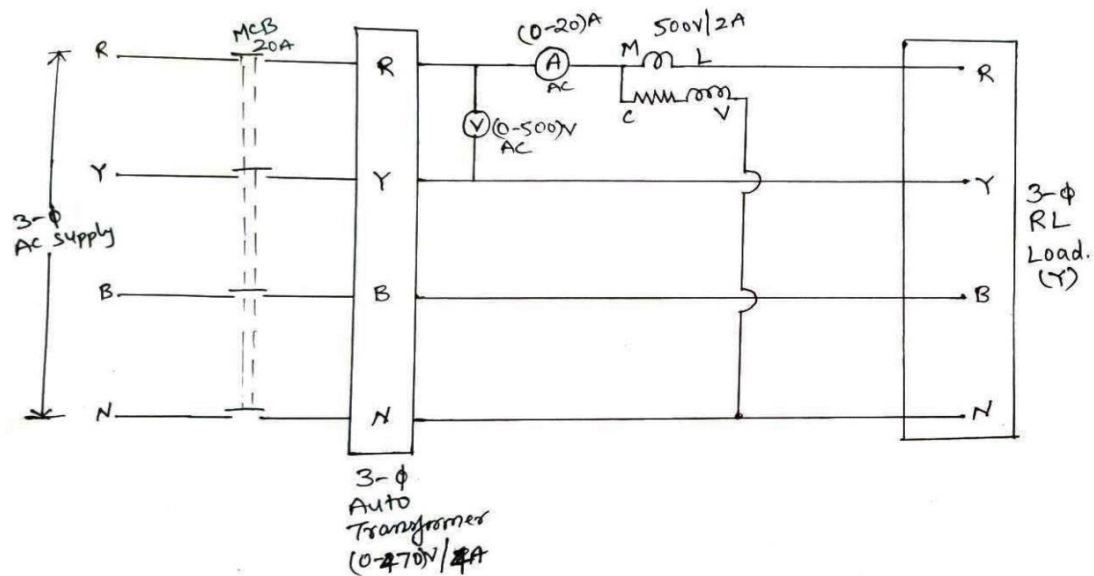

Fig.1 Circuit diagram for measurement of 3-Phase Active power using one wattmeter method for balanced load
1. Connect the circuit as per Fig.1